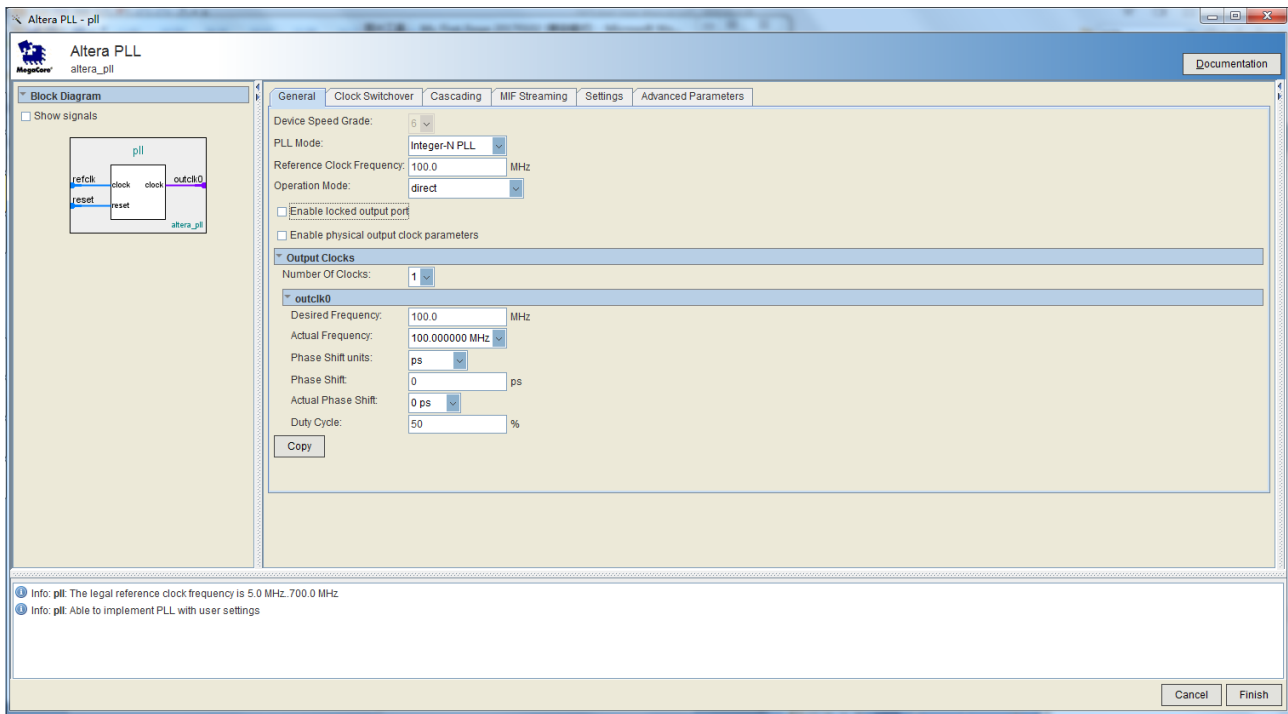

Figure 3-11 MegaWizard Plug-In Manager Selections
6. Turn off the Enable locked output port option on MegaCore. As you turn it off, pin disappears from the PLL block's graphical preview. See **Figure 3-11** for an example.